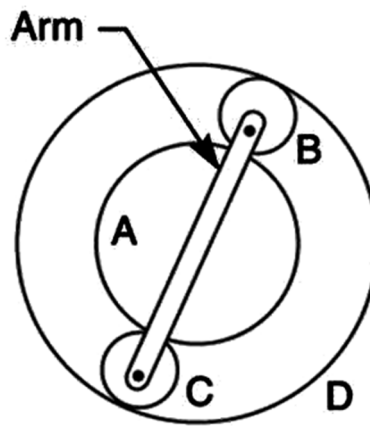

Fig. Q5 (a)
- a) An epicyclic train of gears is arranged as shown in **Fig. Q5 (a)**. How many revolutions does the arm, to which the pinions B and C are attached, make: